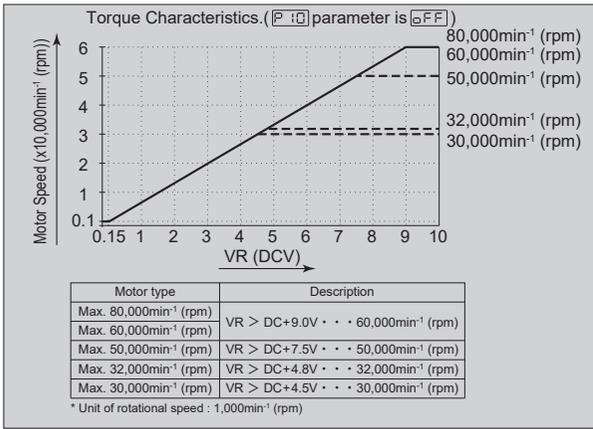
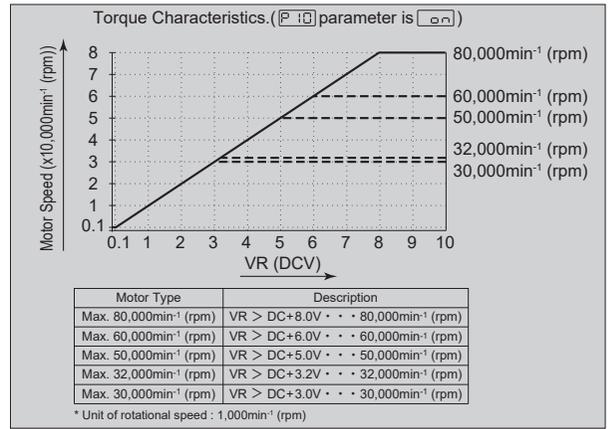
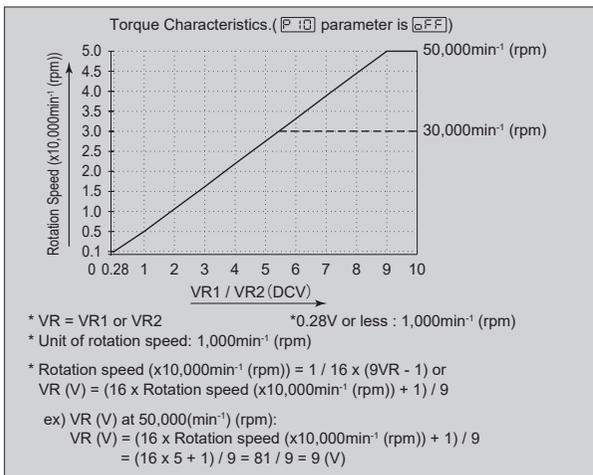
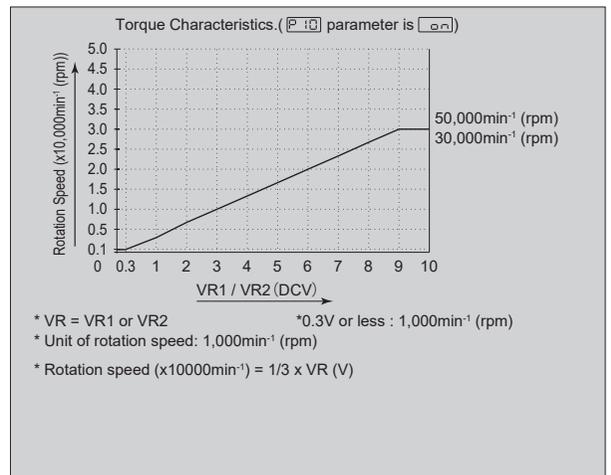

Fig. 50
Fig. 51
Fig. 52
Fig. 53
- (1) Except when E2280 compatible output (parameter **P 14**) and E2280 motor selection (parameter **P 15**) is selected
- For the characteristics of the VR and rotation speed by parameter **00** and **0FF**, refer to Fig. 50 and Fig. 51.
- (2) When of E2280 compatible output (parameter **P 14**) or E2280 motor selection (parameter **P 15**) is selected.
- For the characteristics of the VR and rotation speed by parameter **00** and **0FF**, refer to Fig. 52 and Fig. 53.